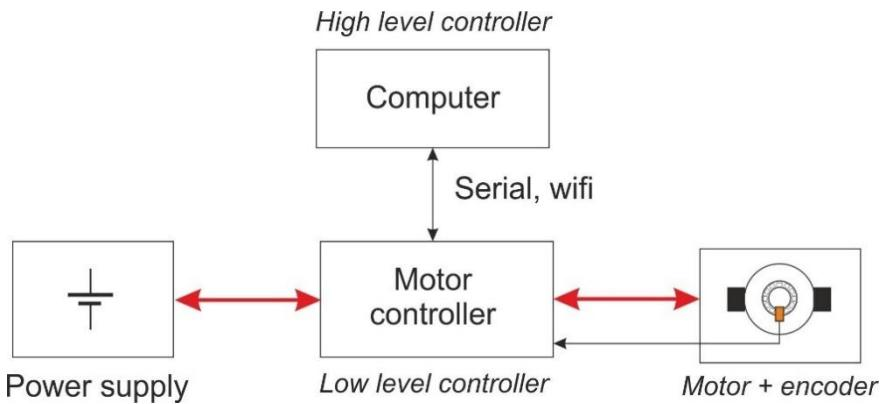
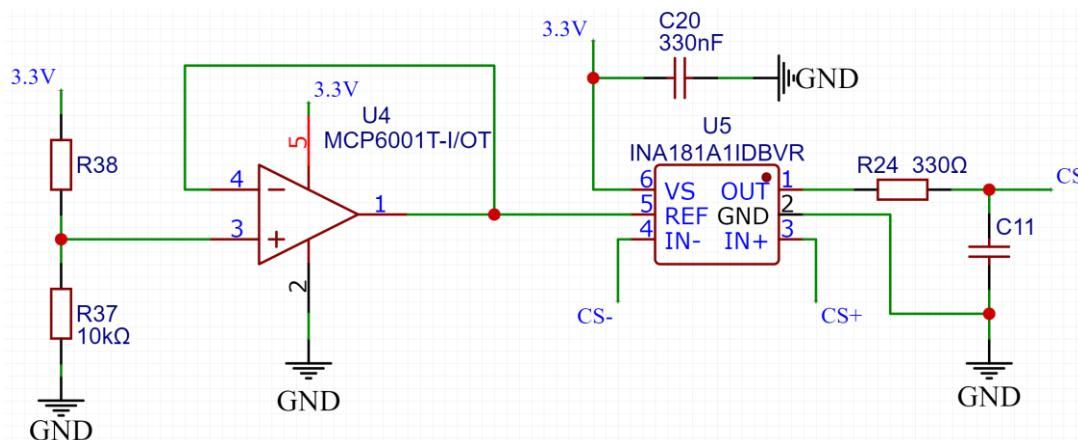

figure 1.1: Block scheme that shows the control of a DC-motor by a high level controller via a motor controller.
figure 2.3: Current sensor circuit.
In almost each robotic system you find one or more electric motors. In this course we show how to design the (electronic) hardware and embedded software of a motor controller. The motor controller is a low level electronic device that controls a motor and is fed by a power supply. The motor controller itself is often controlled by a high level controller, such as a computer or PLC (see figure 1.1).
Figure 1.1 shows the block-scheme of the electronics of the motor controller. It consists of the following blocks:
Figure 2.3 shows the current sensor circuit. The base of the current sensor is a INA181 bidirectional current-sense amplifier. This chip measures the voltage across the shunt-resistor ( $R_1$ ) that is placed in series with the motor (see figure 1.1). The left part of the circuit around opamp U7A generates a constant reference voltage  $V_{ref}$  that is needed by the INA181.
- Find the value of R38 and the value of R1 (shunt-resistor, see figure 1.1), so that we have: